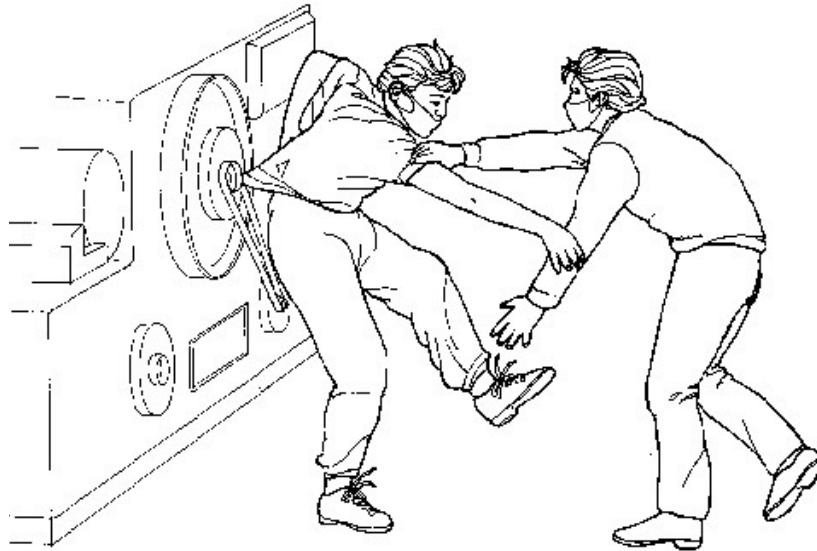

FIGURE 1
1.2 Study FIGURE 1 below and answer the following questions: